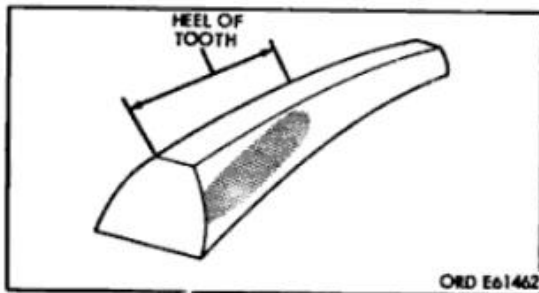

Figure 102. Short heel contact
- (2) **Short heel contact.** Gear contact too heavy on heel of tooth (fig. 102) will result in chipping, excessive wear and noise. To correct condition, remove shims at (E) and add equal thickness of shims at (A) to maintain bearing preload. Remove shims from (B) to maintain 0.006 to 0.012-inch backlash.